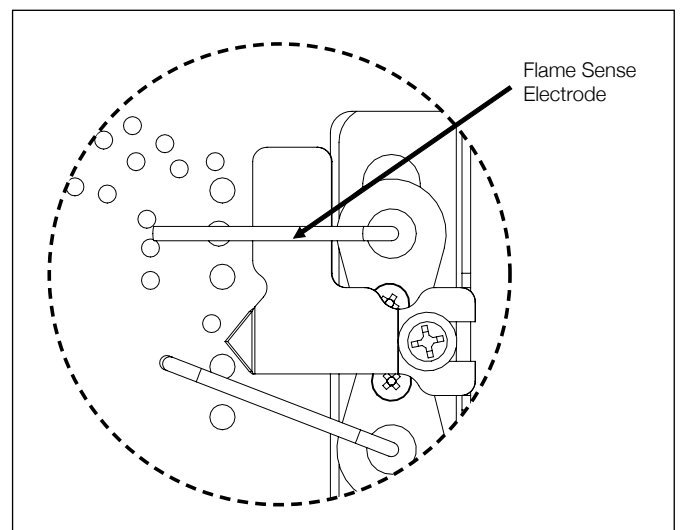

FIG 24
7. Replace in reverse order checking location of spark/sense electrodes, **FIG 24**. Spark gap between electrode and spark plate is 6 - 8mm. Check for gas tightness. Flame sense electrode must be in constant flame. For log placement refer page 13 of this manual.